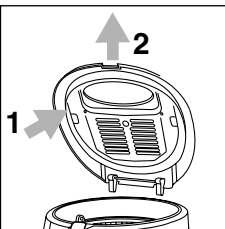

fig. 5
1. Remove the lid (fig. 5) and empty the tank from the side shown
Remove the lid as shown in fig. 5.
The lid is removable, to take it off, proceed as follows: push the lid back (see arrow "1" fig. 5) and at the same time, lift it up (see arrow "2" fig. 5).